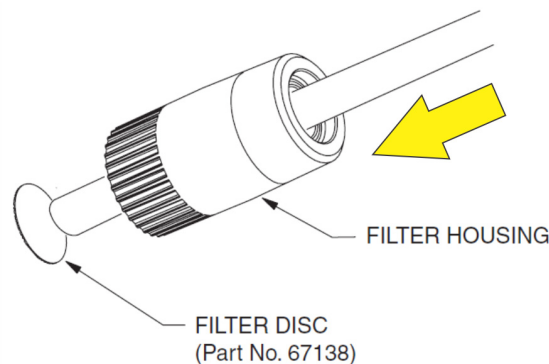

Figure 47: Housing Filter Removal
3. Unscrew the chemical filter assembly from the hydrophobic filter bulb, as illustrated in Figure 47: Filter Removal.
Using the flat end of a pencil, push the filter from the sample side, as shown in Figure 47: Housing Filter Removal, and discard it.